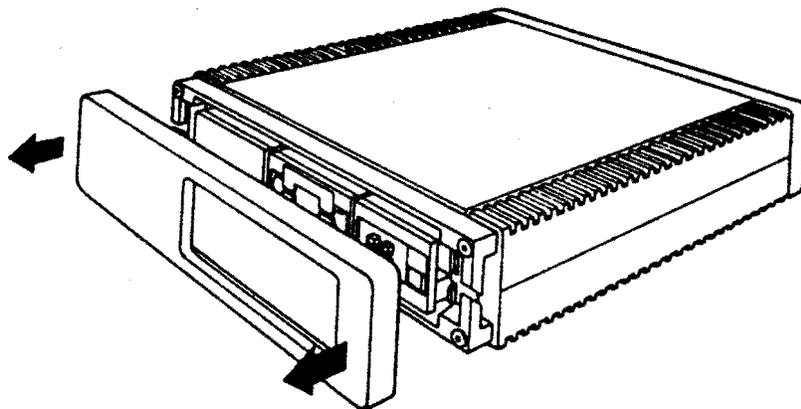

Figure 4-8: Front Cover Removal
4. Remove the system unit front cover, by grasping each end and pulling the cover toward you (Figure 4-8).